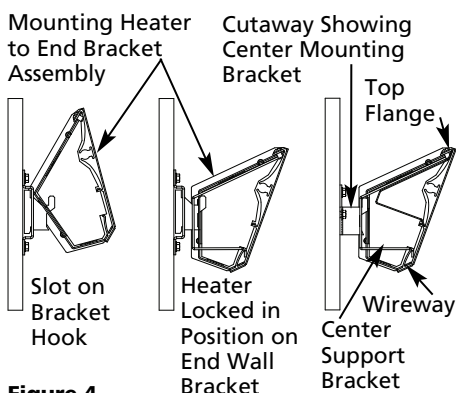

Figure 4
4. To mount cove heater, attach Center Support Bracket to the Center Wall Bracket by tilting the heater back and allowing the upper slot to fall onto the bracket hook per Figure 4. Attach the junction boxes to the End Wall
Brackets in a similar manner. Bring the cove heater forward to lock into place. See cutaway in Figure 4.